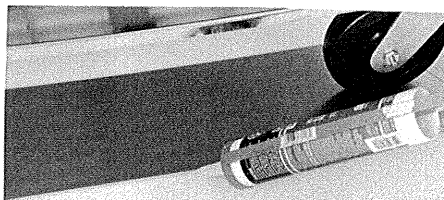

Fig. 4
9. Certain applications may require that the areas where the pads and floor meet be sealed. Using a caulking gun and an approved silicone, apply sealant at these locations (Fig. 4).